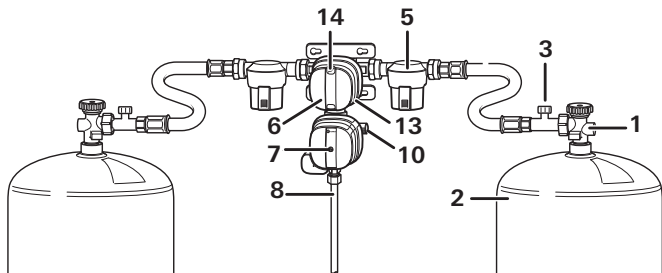

Figure 1a: DuoControl CS vertical
- Connect the gas cylinders (2) and make sure all hose connections are in good condition.
- Open the valves on both gas cylinders (1).
- Firmly press the hose rupture protection (figure 1a – 3) on the high-pressure hose for about 5 seconds. The display in the inspection glass (14) turns green.
- If the yellow reset button (7) is not pressed (“not ready for operation” position), reset the crash sensor.
- For example, turn control knob (13) to the left as far as possible (left connection = operating cylinder).
- Close the valve (1) of the empty gas cylinder (2).
- Remove the high-pressure hose (4) from the gas cylinder (2) and remove the clip-on adapter, if present.
- Open the full gas cylinder's valve (1).
- Press the hose rupture protection (figure 1a – 3) and if necessary the yellow reset button (7), turn it slightly clockwise and hold it for 5 seconds.